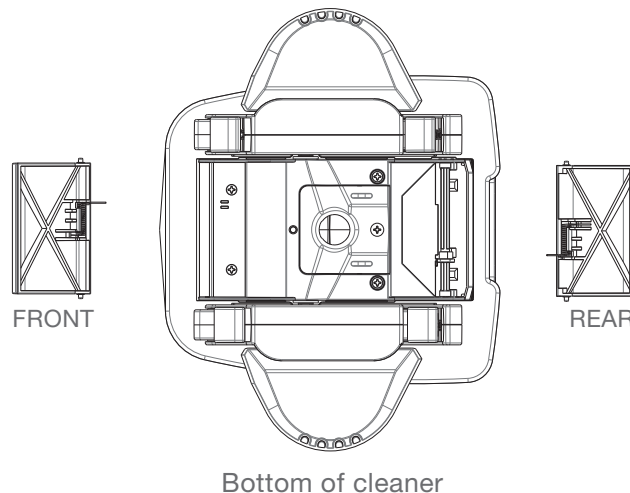

Fig. 13
- B. You will notice that your replacement flaps look similar but are marked “Front” and “Rear” on the flap. Because the springs in the flaps are different, it is absolutely necessary to install the proper flap in the front and rear of the unit. Failure to do so will result in unsatisfactory performance of the StarzTruck automatic pool cleaner. When installing the front flap, be sure that the extended leg of the spring is inserted into the notch on the front of the lower body (see Fig. 13). Push the flap in place. You will feel and hear a snap when the flap is in place. Fold the flap in toward the bottom of the StarzTruck automatic pool cleaner. You will feel some resistance at this point (that is normal). As the flap snaps into its normal position, you will feel the spring action and notice that the front flap is now in its normal operating position. When installing the rear flap, the extended leg of the spring must fit against one of the flat surfaces of the cam (see Fig. 13).